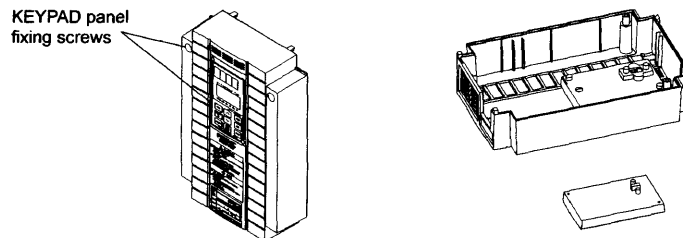

Figure 1-3-3 Removal of KEYPAD Panel (15kW or lower)
After removing the face cover in step (1), loosen the KEYPAD panel fixing screws. Remove the KEYPAD panel as shown in Figure 1-3-3.